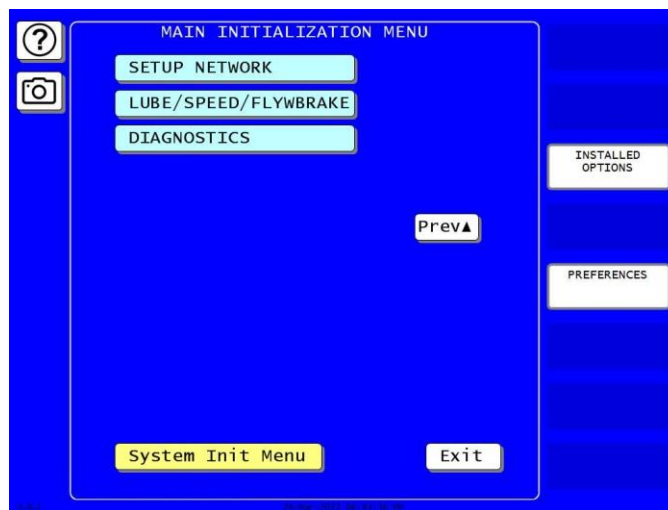
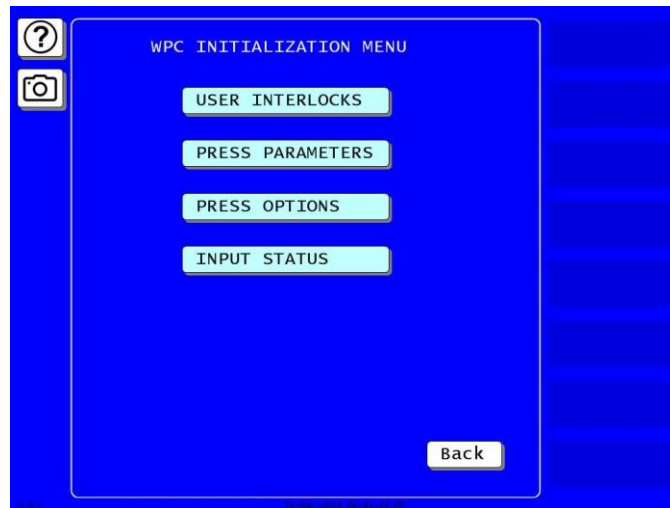

Figure 3-1. SmartPAC PRO Main Initialization Menu
Figure 3-2. WPC Initialization Menu
1. On the SmartPAC PRO Main Initialization Menu (see Figure 3-1, above), press PRESS CONTROL. The WPC Initialization Menu, shown in Figure 3-2, displays.